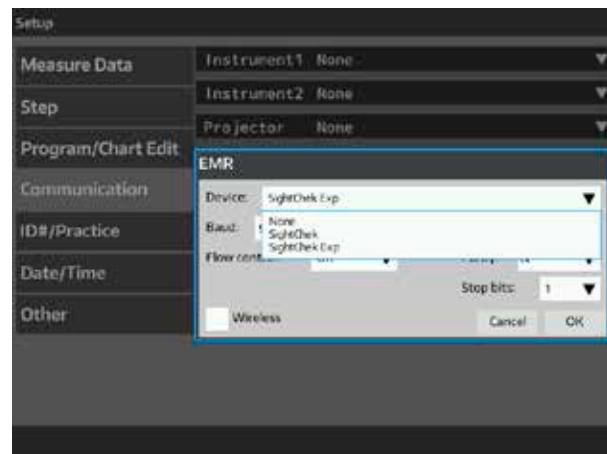

Figure IS-42 Settings Menu
2. Select the device protocol that is being connected to the SightChek from the drop down menu. Refer to Figure IS-42.